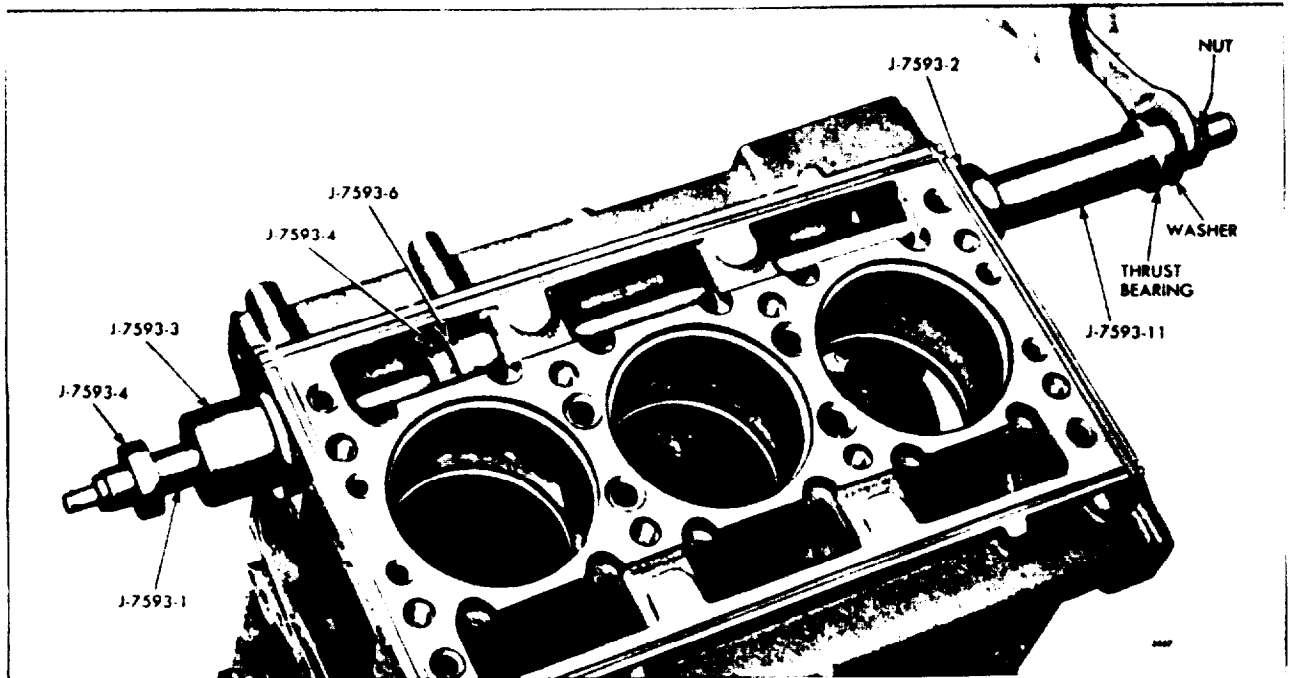

Fig. 4 Installing Intermediate Camshaft Bearing
1. Insert pilot J 7593-2 in the bore of the block as shown in Fig. 4. Use the small end of the pilot if an
5. Next, place a spacer (if required), thrust washer, plain washer and hex nut over the threaded end of the puller. The short spacer J 7593-11, shown in Fig. 4, is used on the three cylinder (In-Line) and 6V blocks. The long spacer J 7593-10 is used on the two cylinder block.